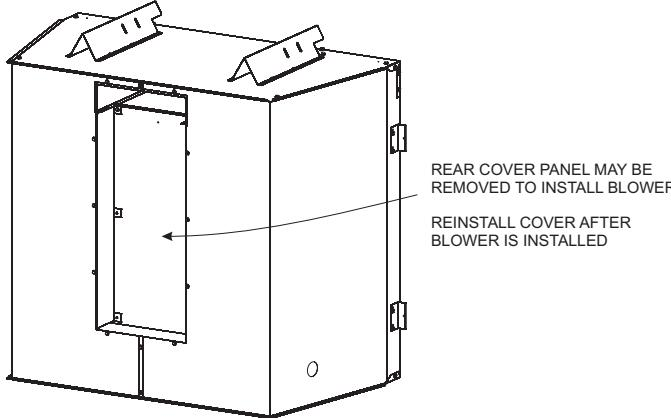

Figure 28
- Note:** For field installation of blower assembly, it may be easier to remove rear cover panel to install blower. This eliminates the need to remove brick liner panels, but the blower would have to be installed prior to installing the firebox into a wall or chase. See **Figure 28**.